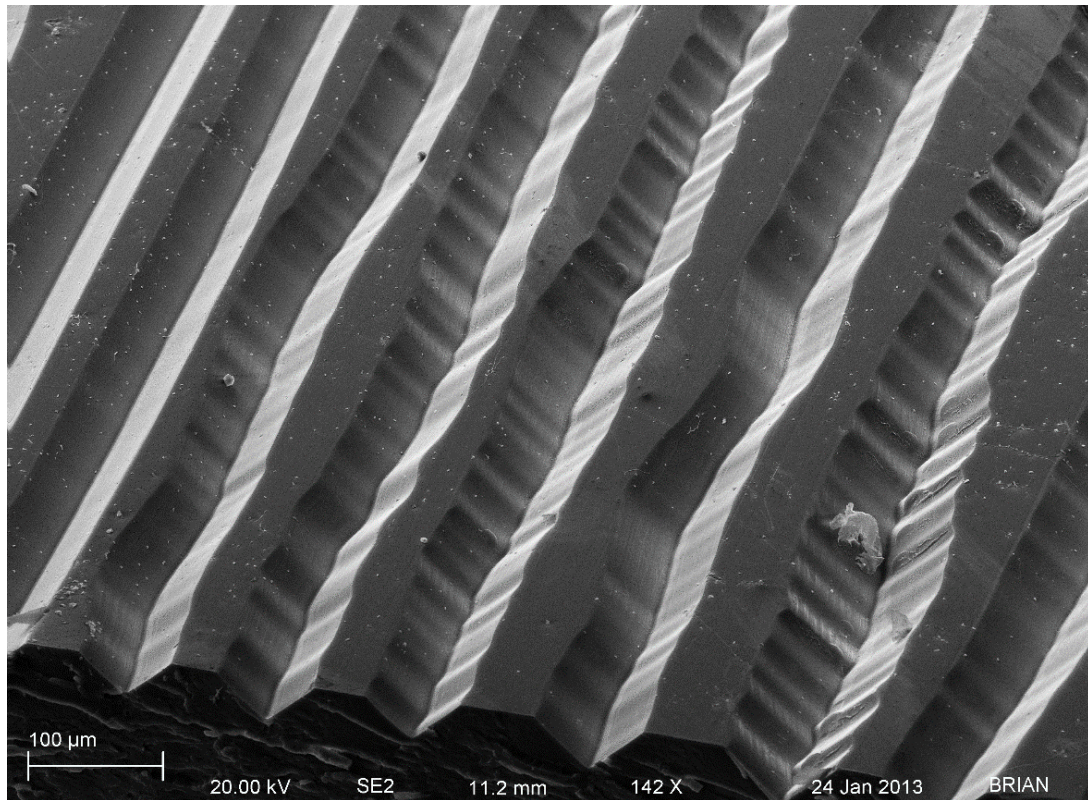
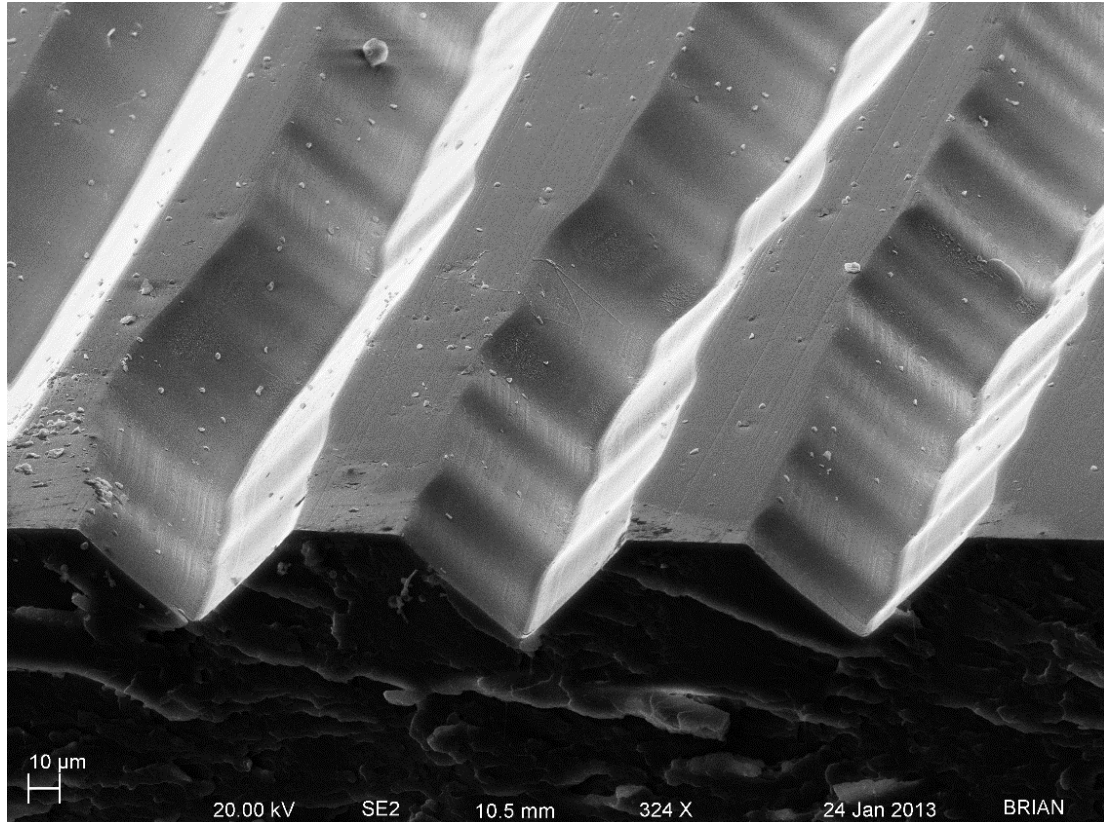

Figure 1 - Record Groove Under SEM at 142 Magnification
Figure 2 - Record Groove Under SEM at 324X Magnification
- I.3.2 The groove is cut (often referred to as modulations) so that the stylus can move side-to-side (laterally) or up-and-down (vertically) to produce the audio signal. Groove sidewall ridges are used to reproduce right and left high frequency information for stereo. **Figure 1** illustrates record grooves using a scanning electron microscope (SEM) at 142X magnification with some details of the side-wall ridges. The side wall ridges are closely spaced to produce high frequency signals; 10 microns for a 33.333 rpm record to produce 20 kHz. The distance from the peak of the side wall ridge to its valley is the lateral amplitude and these can be less than 1-micron.
- I.3.3 **Figure 2** is a close-up (324X magnification) of **Figure 1**. However, while **Figure 2** shows smooth groove side-wall ridges, SEM photos at 1000X show much more ragged details of the sidewall ridges that can be seen here SEM of grooves in LP record - Stock Image - H100/0098 - Science Photo Library.
- I.9 Verifying cleanliness is a further challenge. When is a record clean? Currently other than use of a SEM, there is no practical quantitative method to verify record cleanliness. Visual techniques such as white light and UV-blacklight have detection limits that will not be sufficient to verify that the record is actually clean. Very thin, transparent soil films associated with mineral-based oils and greases can be difficult to detected below 100 milligrams per square foot (mg/ft²), and this type of contamination generally does not fluoresce under UV-blacklight. Other common industry cleanliness verification techniques such as solvent wash and measure of effluent non-volatile residue (NVR) and particle count are not practical for many reasons; cost, compatibility of available solvents with the vinyl record, skill and the very difficult geometry illustrated **Figure 1** and **Figure 2** just to name a few. Performing cleanliness verification with the assistance of an ultrasonic (UT) tank is possible, but is at best qualitative (see **CHAPTER XIV. DISCUSSION OF ULTRASONIC CLEANING MACHINES:**). In the absence of a practical quantitative cleanliness verification method, the subjective after cleaning play-test - how does the record sound - prevails.